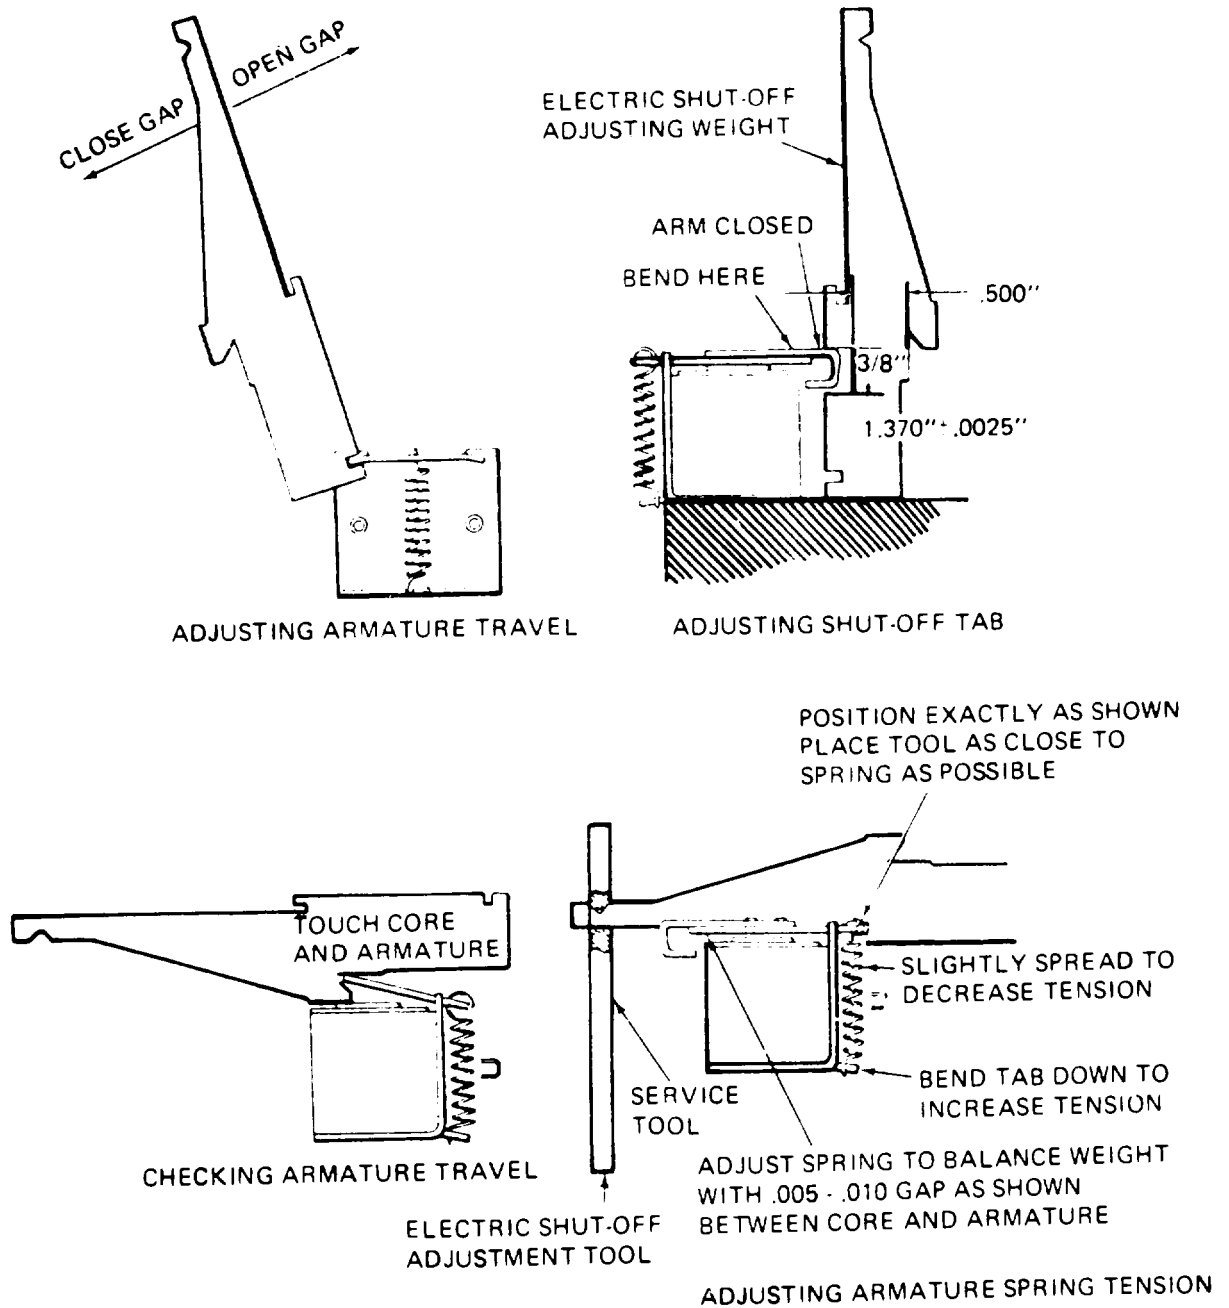

Figure 3-24. Solenoid Armature Adjustments
- (49) Adjust armature as illustrated in figure 3-24.